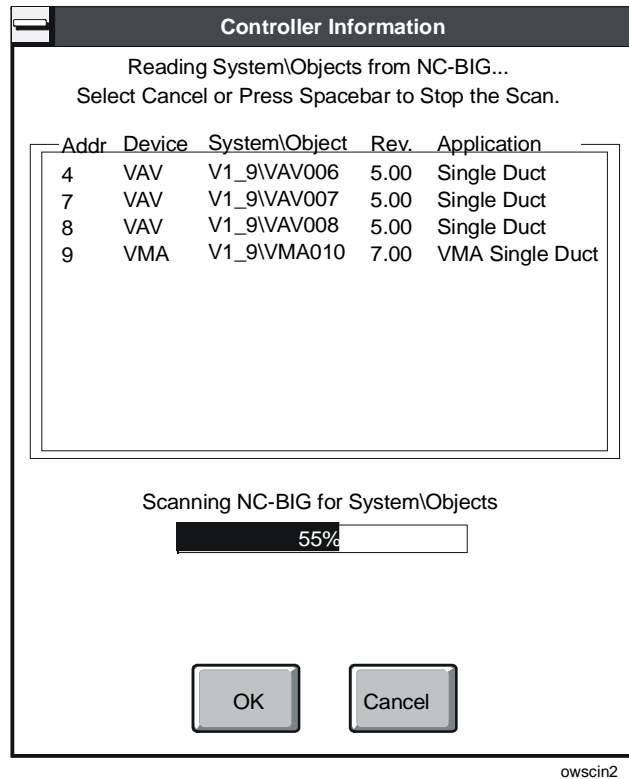
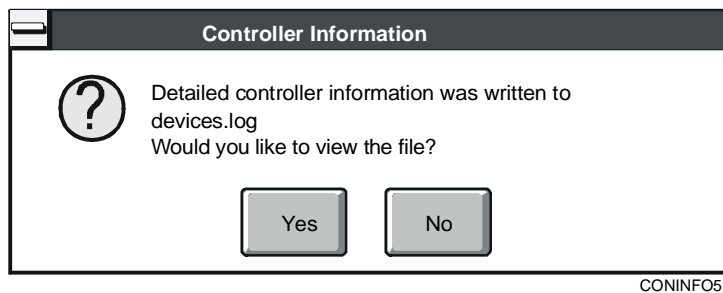

Figure 16-15: OWS - Controller Information Dialog Box
Figure 16-16: View Information Message Box
- Click OK or press Enter. The dialog box in Figure 16-15 displays. HVAC PRO software displays the message in Figure 16-16 when it completes the scan of the selected NCU.